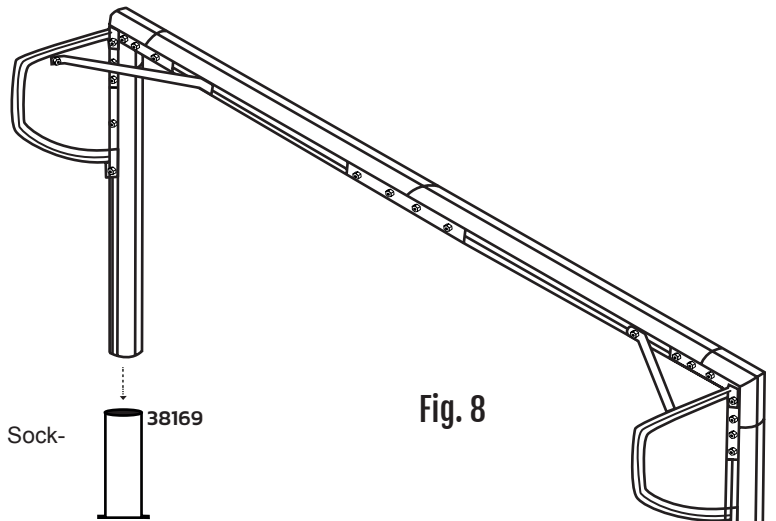
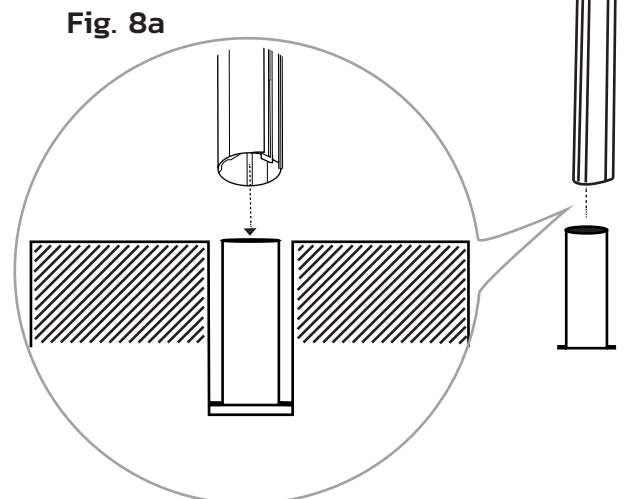

Fig. 8
Fig. 8a
Step 8 - Ground Sockets (Fig. 8)
Slot the fully assembled goal into the pre-installed Ground Sockets (38169) as per Fig. 8 and Fig. 8a.